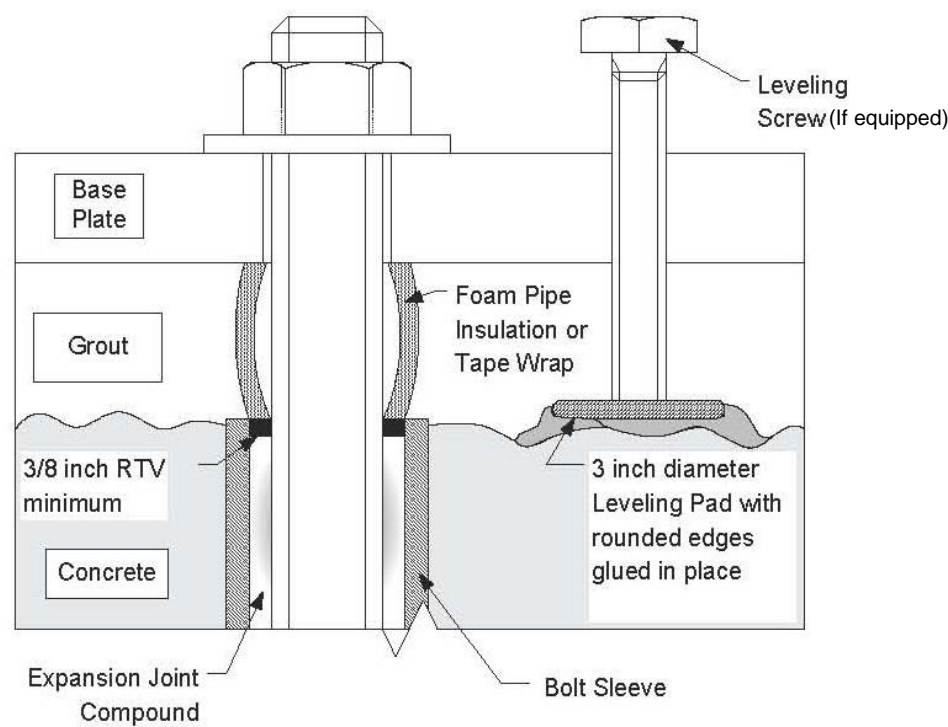
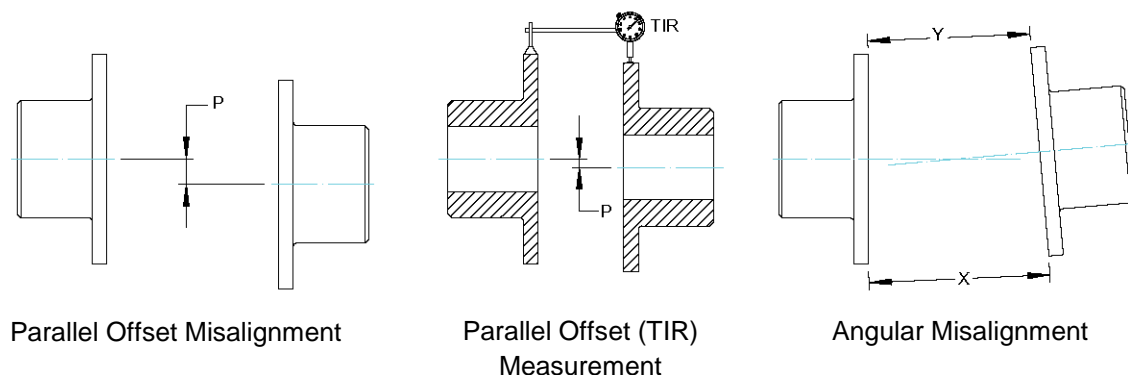

Figure 7. Grouting and Foundation Bolting
Figure 9. Coupling Alignment
rigid support for the base plate. Consequently, maintaining the pump to driver alignment is important for a flexible coupled unit, refer to Figure 9. A concrete foundation on a solid base is recommended. Use foundation bolts of the proper size embedded into the concrete. A pipe sleeve larger in diameter than the bolt should be used. This allows movement for final positioning of the bolts; refer to Figure 7, Grouting and Foundation Bolting.
The base should be supported on either rectangular metal blocks with shims or on metal wedges having a small taper. The support pieces should be placed close to the foundation bolts, refer to Figure 7, Grouting and Foundation Bolting. Place supports directly under the part of the base, which carries the greatest weight. Space the supports closely enough to provide uniform support of the base. Adjust the metal supports or wedges until the shaft is level. Check suction and discharge flanges of the pump by means of a level. Make corrections, as necessary, by adjusting the supports or wedges under the base.
2. The “Parallel Misalignment” value (P) is the offset between the centers of the hubs, as shown in Figure 9.
3. When the Parallel Offset is measured by rotating the hubs in unison with dial indicators as shown in Figure 9, the Total Indicator Reading (TIR) should be divided by (2) to calculate (P).
5. The “Angular Misalignment” value is the maximum difference between the measurements X and Y taken at opposite ends of the hub flanges, as shown in Figure 9.